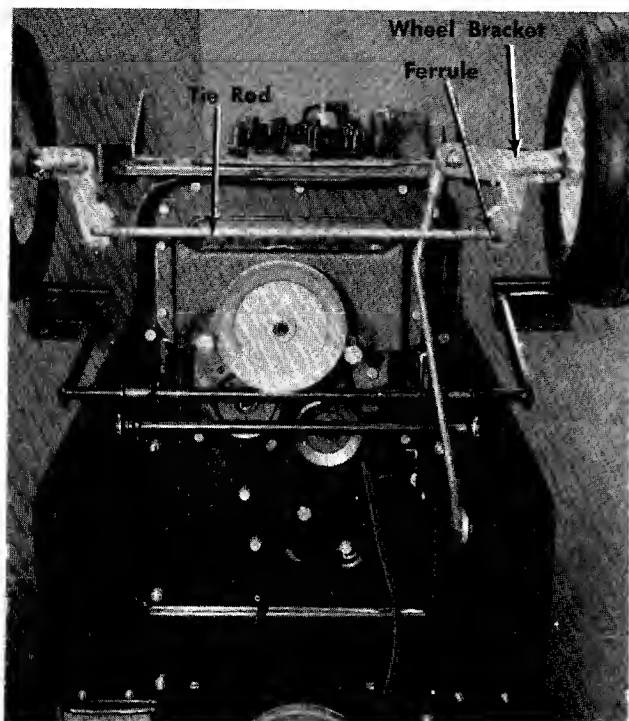

FIGURE 45.
The caster (forward slant of the king pin) and the camber (tilt of the wheels out at the top) require no adjustment. Automotive steering principles have been used to determine the caster and camber on the mower. The front wheels should toe-in 1/8 inch. See figure 45. To adjust, follow these steps:
1. Remove the cotter pin holding the ferrule to the axle bracket. See figure 45.